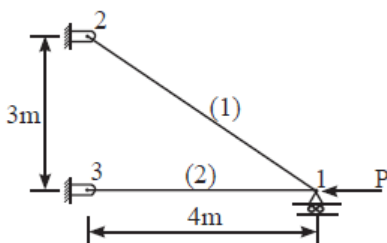

fig 3
**5** For the two-bar truss shown in fig 3. Determine the nodal displacements element stresses and support reactions. A force of  $P = 1000 \text{ KN}$  is applied at node 1. Assume  $E = 210 \text{ GPa}$  and  $A = 600 \text{ mm}^2$  for each element.